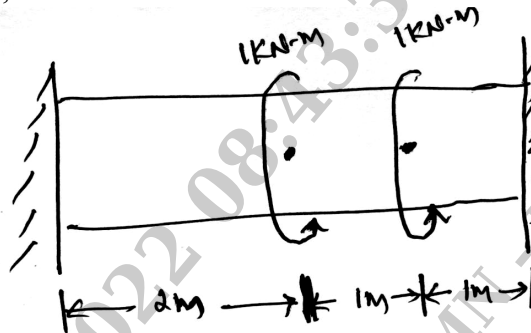

Fig Q6
- 6 A bar of circular cross section having a diameter 50mm is firmly fixed at its ends. It is subjected to torque as shown in Fig Q6. Determine the angle of twist and shear stress. Take $G = 7 \times 10^4 \text{ N/mm}^2$, $E = 2 \times 10^5 \text{ N/mm}^2$.